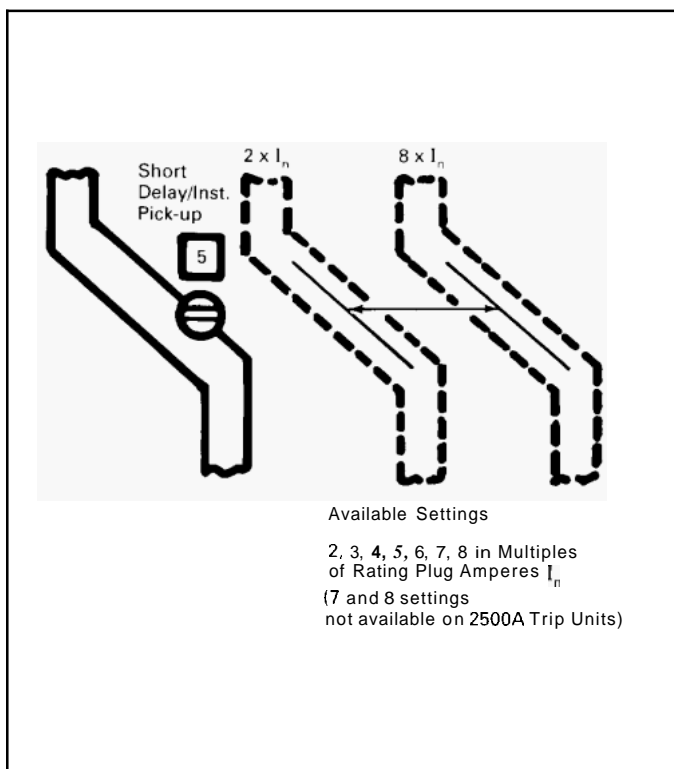

Fig. 2-1 Short Delay/Instantaneous Pick-Up Settings
Prior to placing any circuit breaker in operation, each trip unit protection setting must be set to the values specified by the engineer responsible for the installation. The available settings along with the effect of changing the settings are illustrated in Figures 2.1 to 2.4.
Seven settings are available that range from 2 to 8 (I) as shown in Figure 2.1. This feature is included on all Digitrip RMS 310 Trip Units. Settings 7 and 8 are available on 2500A styles.